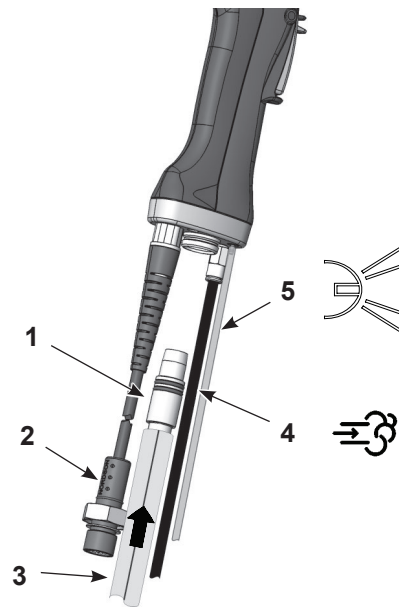

Figure 3 Spray Gun Connections
1. See Figure 3. Connect the 6-mm black air tubing (4) to the quick-disconnect fitting in the spray gun handle.
2. Connect the 4-mm clear electrode air wash tubing (5) to the barbed fitting in the gun handle.
3. Connect the powder hose (3) to the hose adapter (1) with the arrow on the powder hose pointing toward the adapter. Then, plug the hose adapter into the handle.